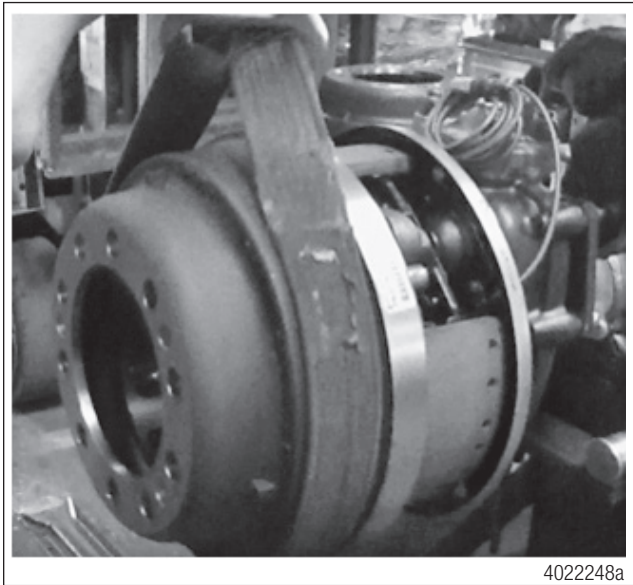

Figure 33
3. Remove the brake drums using a suitable lifting device. Figure 33.